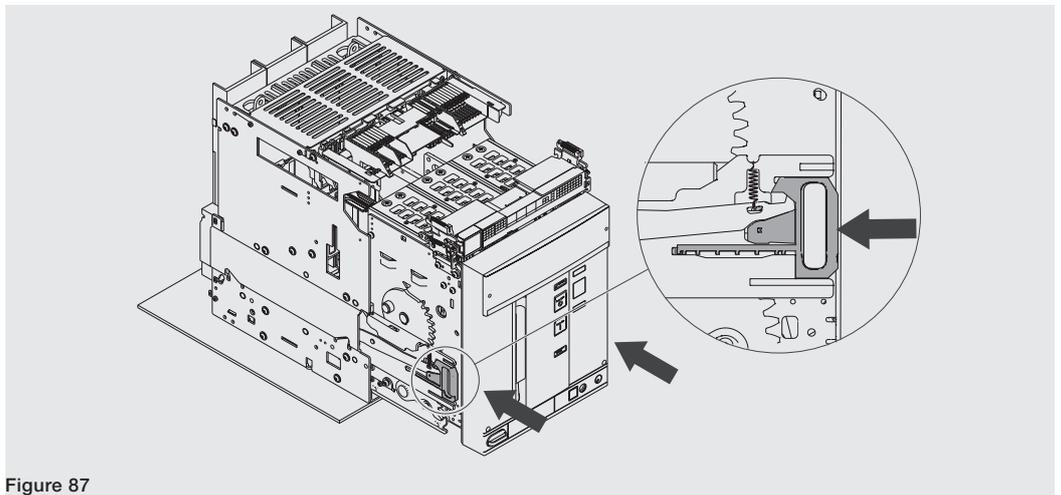

Figure 87
7. Grip the guide levers of the fixed part and push them until the moving part stops. See Figure 87.